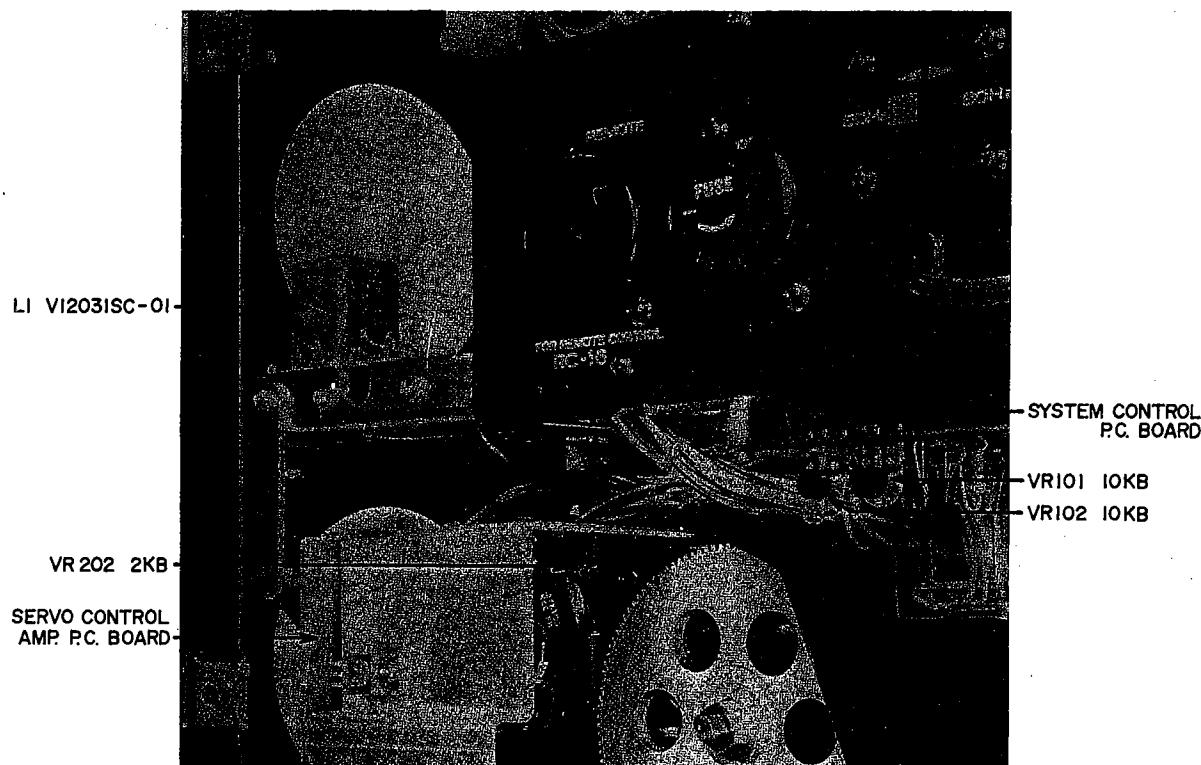

Fig. 8
- 3) Adjust the core of coil L1 (VI023SC-01) shown in Fig. 8 to obtain a frequency counter indication of 500 Hz $\pm 1\%$.
- 4) After the 3-3/4 ips (9.5 cm/sec.) tape speed adjustment has been completed, depress the 7-1/2 ips (19 cm/sec.) Tape Speed Selector Switch and adjust Servo Control P.C. Board semi-fixed resistor VR202 (2 kB) shown in Fig. 8 to obtain a frequency counter indication of 1,000 Hz $+1/-0.5\%$.
Adjust System Control P.C. Board semi-fixed resistor VR101 (30 kB) shown in Fig. 8 so that when the machine is switched from FWD to REV mode or from REV to FWD mode, the pinch wheel separates from the capstan in about 3 seconds.
- 2) Adjust System Control P.C. Board semi-fixed resistor VR102 (10 kB) shown in Fig. 8 so that when the machine is switched from F.FWD or RWD to FWD or REV mode, the time constant is about 1.5 seconds.